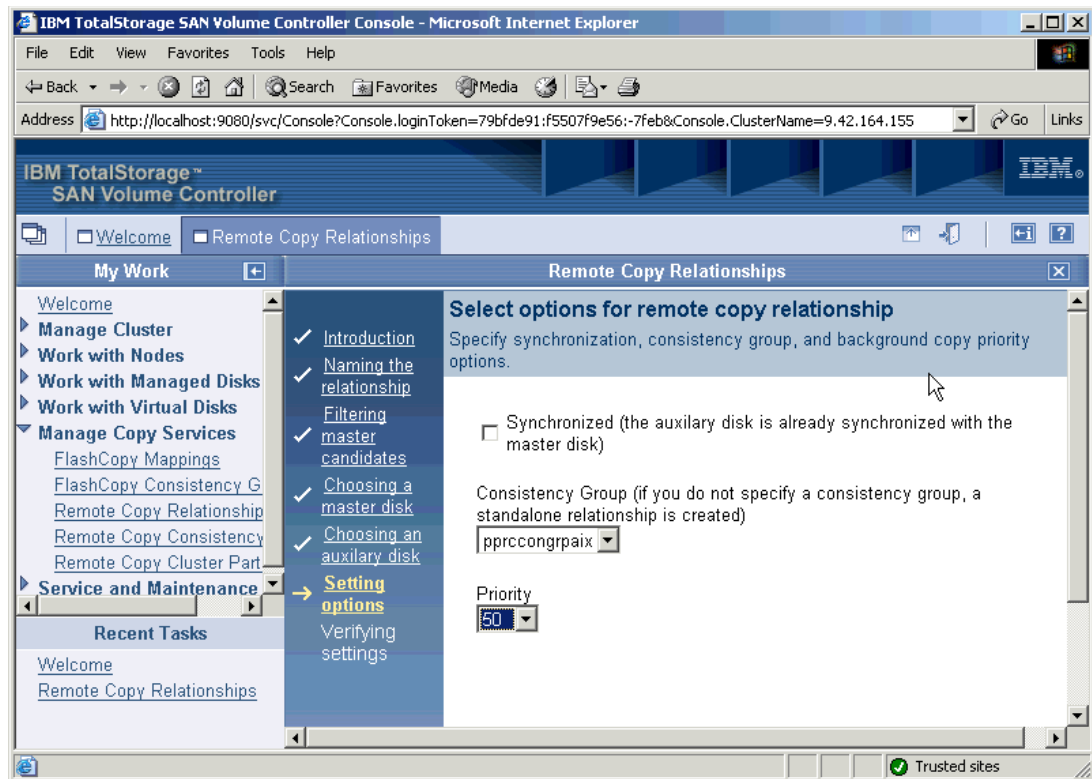

Figure 11-23 Select options for remote copy relationship
8. As shown in Figure 11-23, choose the consistency group and the priority. Select the **Synchronized** check box only if the master and auxiliary are already synchronized.